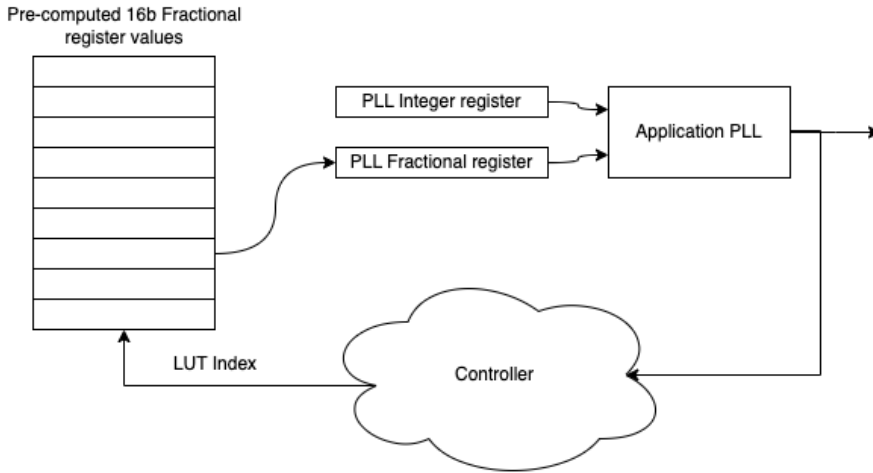

Fig. 2: LUT DCO based PLL
44.1kHz. It required two bytes per LUT entry and provides reasonable jitter performance suitable for voice or entry level Hi-Fi. Fig. 2 depicts a LUT DCO based PLL